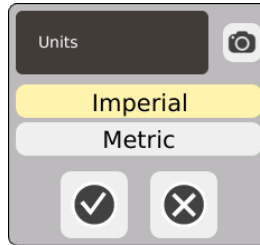

Figure 5-11 Units Selection
- g. Select the units (Imperial or Metric) for the user and then select the  button (refer to Figure 5-11).